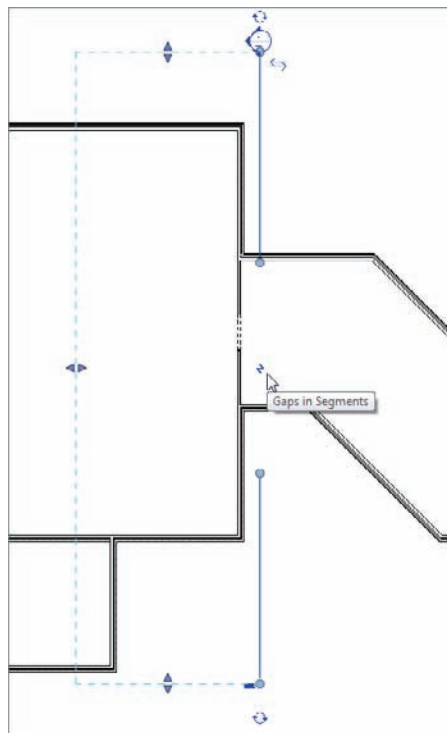

FIGURE 3.36 Adding a gap in the section. You can move your grips to be the same as the figure.
8. With the section still selected, notice that you have a small, blue break icon in the middle of the section (see Figure 3.36). Pick the break line (it is called the Gaps In Segments icon). The section is now broken, and you will have grips controlling the ends of the break lines (see Figure 3.36).